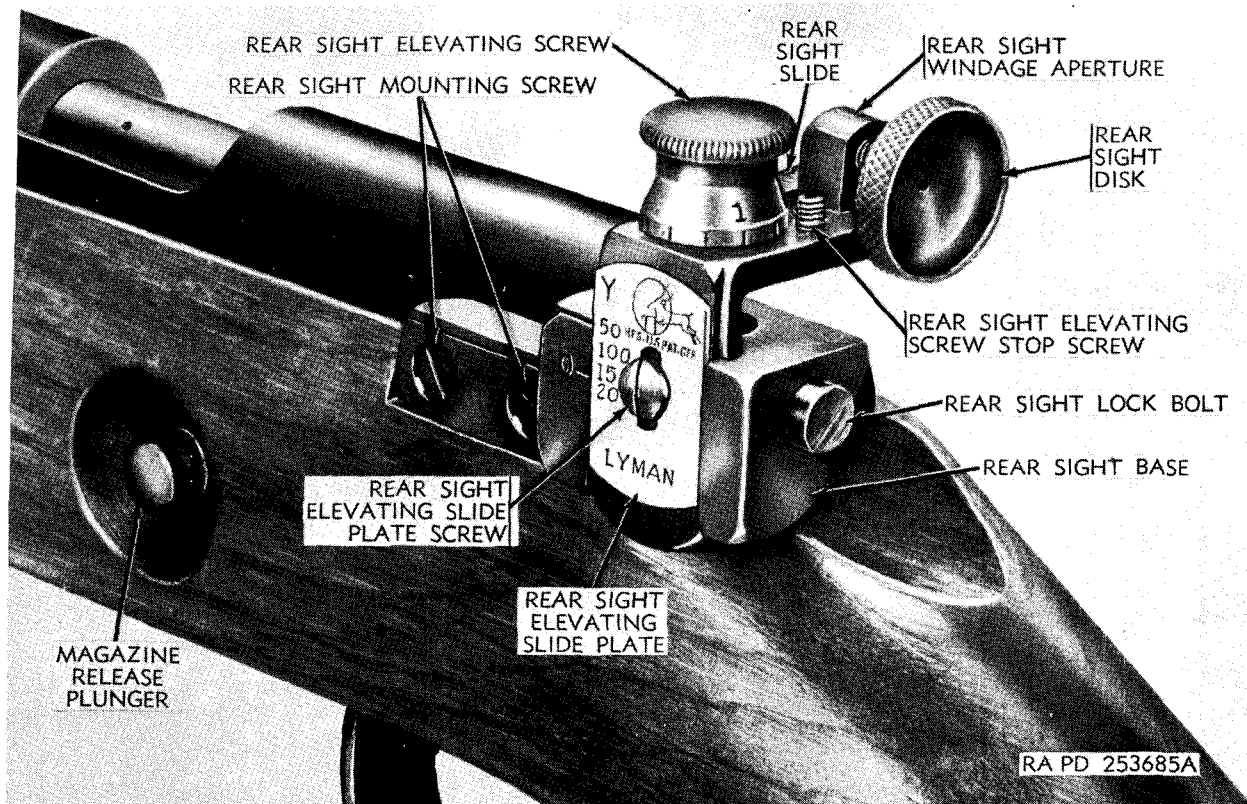

Figure 17. Rear sight assembly (Winchester rifle M75T).
- (3) *Rear sight assembly* (fig. 17). A Lyman 57E rear sight (D) is mounted by two rear sight mounting screws on the left side of the receiver (E). The front of the rear sight elevating base is stamped O, which, when in line with the elevating scale on the rear sight slide, gives the elevation to which the sight is set. The rear sight base (SS) is grooved on the left side to take the elevating slide and drilled and tapped to take the elevating screw (V). The base is drilled longitudinally for the rear sight lock bolt (TT) and spring. The lock has an elongated hole drilled in it, the front side of which is threaded to engage the elevating screw and slide. The forward portion of the lock bolt is undercut to seat the lock bolt spring. When the lock bolt is de-
- (5) *Stock group.* The stock (C) is cut out at the top to receive the barrel band (G), the receiver (E), the barrel (F), the breech bolt cocking sleeve (handle), and the rear sight assembly (D). The magazine release plunger (fig. 17) and spring are mounted on the left side of the stock in the magazine release escutcheon. The barrel band fits over the barrel and into a slot provided in the front of the stock. The barrel band screw (H) goes through the side of the stock and barrel band and screws into the barrel band screw escutcheon in the stock, securing the center of the band to the stock. The forearm adjustment base (S) is mounted in a recess in the forward end of the stock and is secured by two